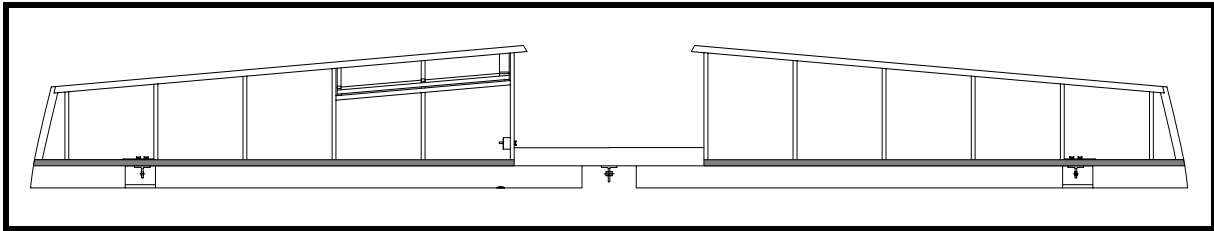

Figure 12
- ❑ Turn the elevator over, and fit the 2mm skin over the trailing edge inboard of Sta. 1. The plywood must be soaked in water and bent. Do not attempt to cut the scarf on the plywood until it is bent. See Figure 12.